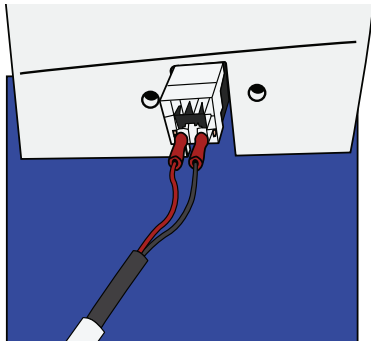

Figure 28
10. Cut the cable ties under the rim and disconnect the Emergency stop. See Figure 28.